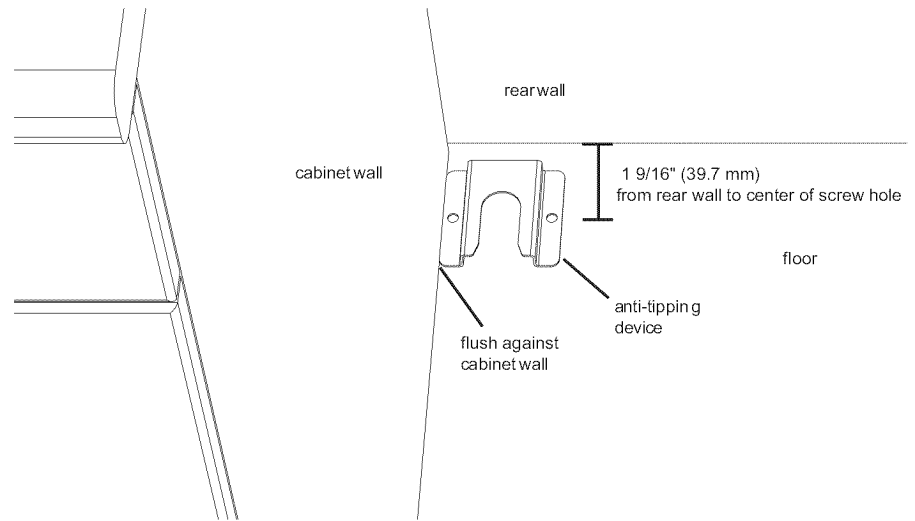

Figure 5: Anti-Tip Bracket
2. Measure to locate bracket position as shown in See Figure 5: Anti-Tip Bracket.